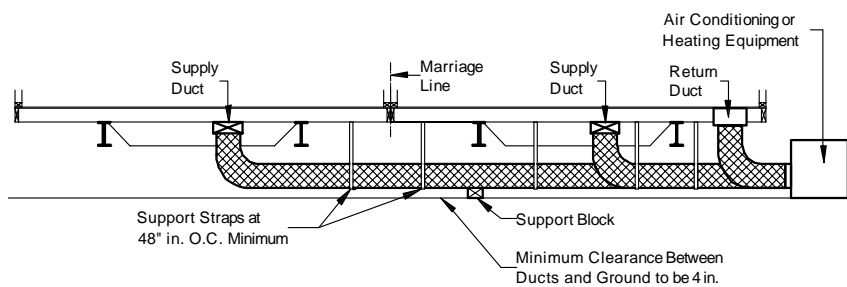

Figure 89. Ducts connecting exterior heating and/or cooling equipment to the home
2. **Install ducts.** Install the appropriate supply and return ducts (not provided) between the remote unit and the home (**Figure 89**), making connections according to the instructions for crossover ducts in **Crossover Connections** (p. 58).
Prepare the whole-house ventilation system according to the ventilation system manufacturer's instructions. Confirm that any fresh air intake ducts extend to the exterior and do not draw air from the crawlspace under the home. Do not allow any fresh air ventilation intake ducts to become kinked or restricted, forming a trap (**Figure 89**).